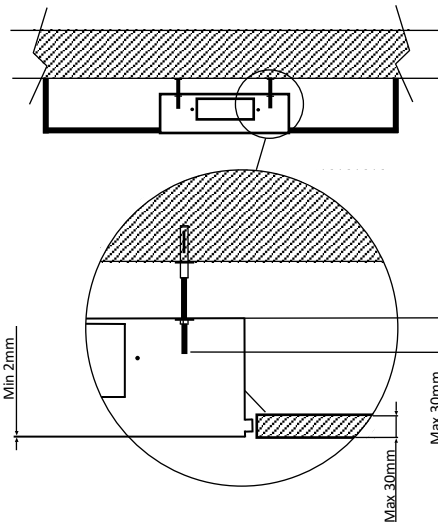

Fig 12
9. Only tighten the bolts so the hood is fixed securely to the bulkhead. If you tighten too much you will damage the frame (Fig 12).